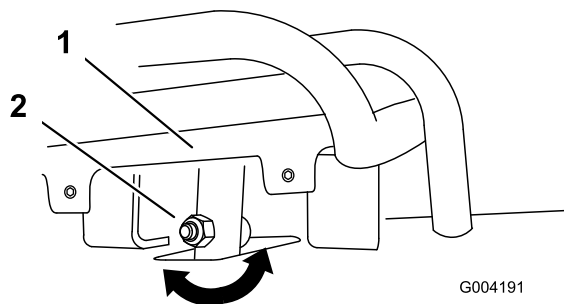
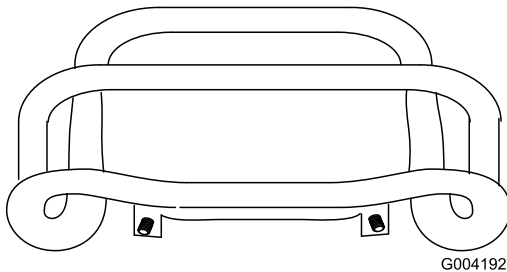

Figure 55
Figure 56
4. If the front of the traction control does not rest square and flush with the reference bar, loosen the flange nut and bolt in the stem of the traction control (Figure 55).
5. Adjust the traction control so that it rests flush against the reference bar when it is pulled straight back (Figure 55 and Figure 56).
- C. Loosen the flange nut and bolt in the stem of the traction control (Figure 55).
- I. Adjust the traction control so that it rests flush against the reference bar when it is pulled straight back (Figure 55 and Figure 56).